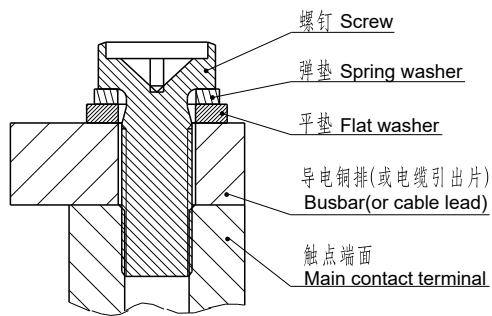

图1(Fig1)
- 当产品使用1个及多个导电铜排连接时, 请确保导电铜排与触点端面紧密贴合(多个铜排需确保大电流的导电铜排最贴近触点端面, 小电流的导电铜排其次), 然后是平垫圈、弹簧垫圈、螺钉。不正确的连接顺序可能造成严重过热, 参考下图1:
When the product is connected with one or more conductive copper bars, please ensure that the conductive busbars closely fit the contact terminal surface (The conductive copper bars with high current must be closet to the contact terminal surface if there are multiple copper bars and then conductive busbars with low current), followed by flat washers, spring washers and screws. Incorrect connection sequence perhaps give rise to severe overheating. Refer to Figure 1 as follows: